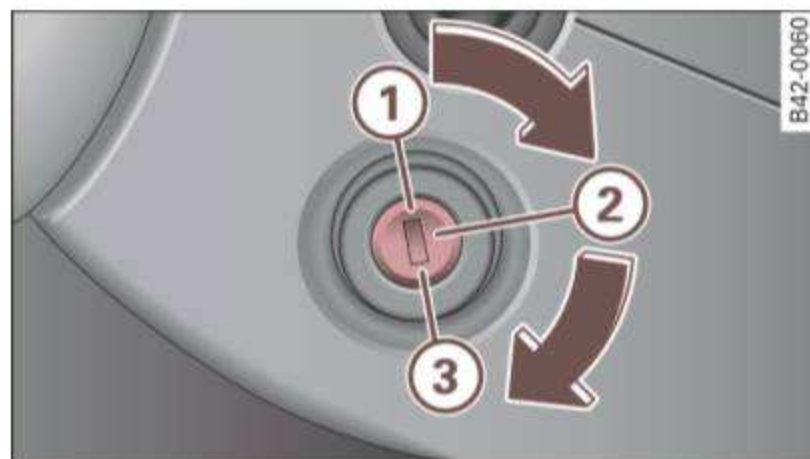

Fig. 65 Ignition lock positions
In position ⇒ fig. 65 ① both the ignition and engine are off, and the steering is locked.
- Turn the ignition key to position ③ ⇒ *page 82, fig. 65* - do not depress the gas pedal when starting the engine.
- Turn the ignition key to position ① ⇒ *page 82, fig. 65*.